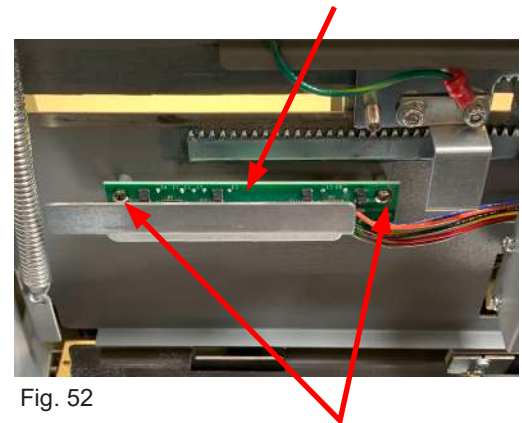

Fig. 52
4. The sensor is located under the main in-feed tray. Remove the sensor mounting screws (Fig. 52).